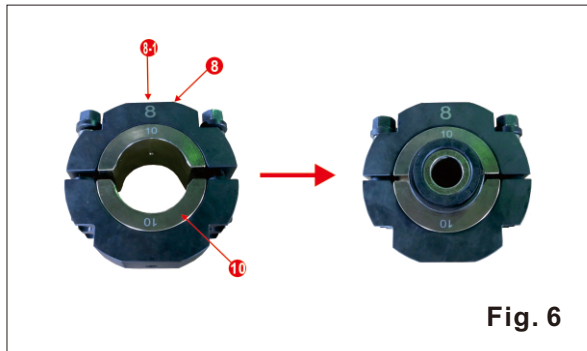

**Fig. 5**
**Refer to Fig 5. Assemble components as show.**